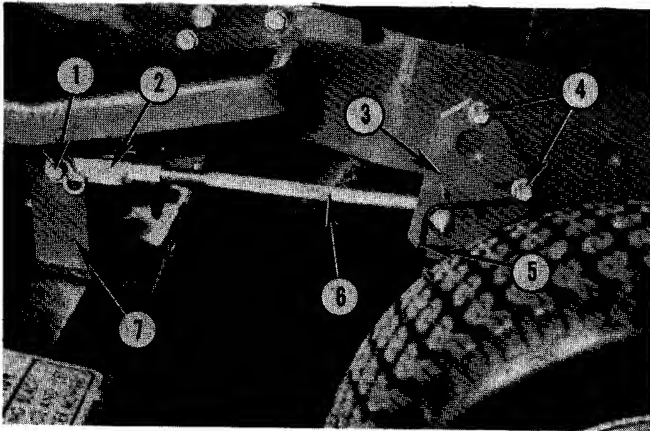

Fig. 34 — Preparing Tractor
2. Tighten nuts to 40 ft.-lbs. torque, Figs. 34 and 35.